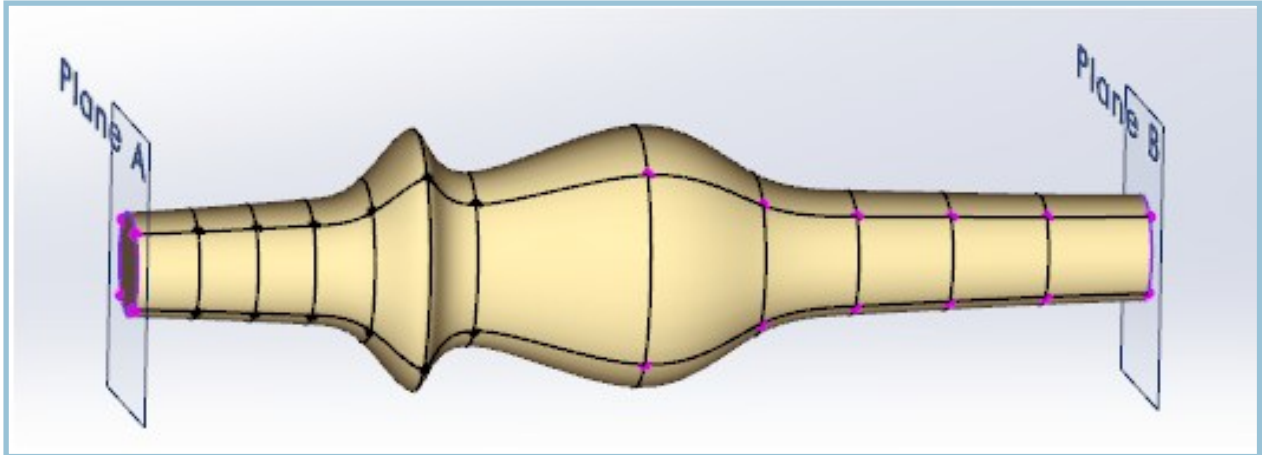
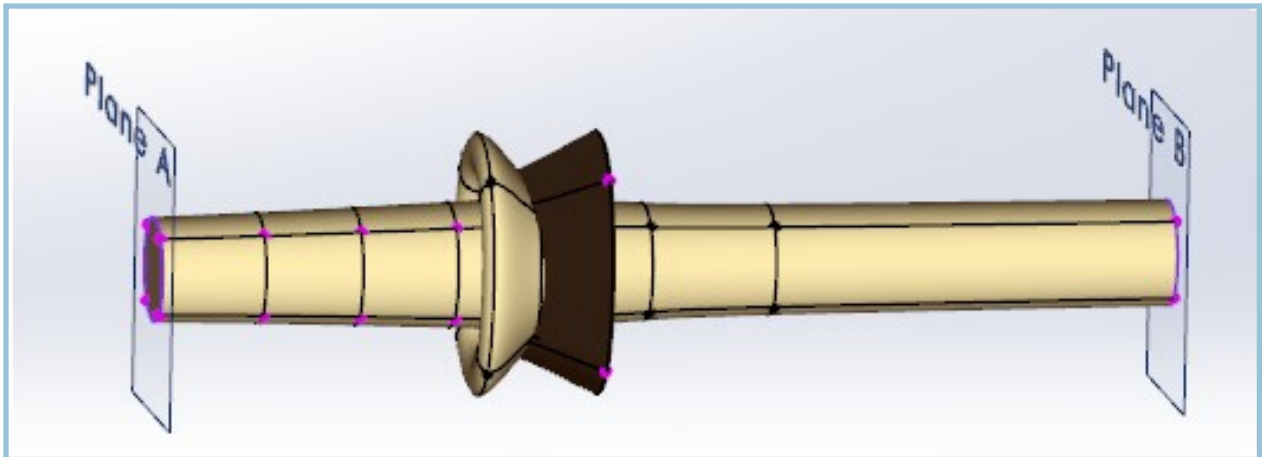

Figure 27 – Only the vertices on the right half of the SubD are set to Retain Ratio and are recalculated to absorb the increased length
Figure 28 – Only the vertices on the left half of the SubD are set to Retain Ratio and are pulled through the now static right side
2. Select the vertices that will define the update area, (Figure 27, top).
Different results can be obtained when setting parts of the SubD to Retain Ratio. In Figure 25, the vertices on the right side are set to Retain Ratio and stretch from the center as expected. If vertices on the left are marked as Retain Ratio, they will be pulled through the static right side of the SubD with only the constrained edges on the right side end moving with the plane, (Figure 27). If the vertices on the left side are marked as Retain Ratio you could produce invalid results which self intersect, (Figure 28).